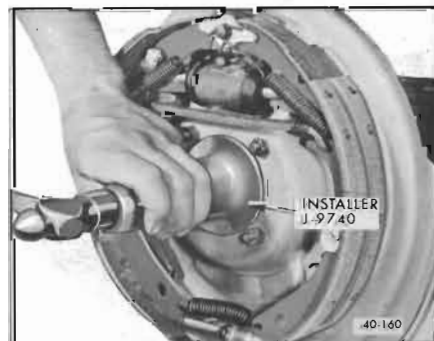

Figure 40-160—Installing Axle Shaft Oil Seal
3. Position seal over Installer J-9740-01 and drive seal straight into tube until installer bottoms against wheel bearing shoulder. See Figure 40-160.